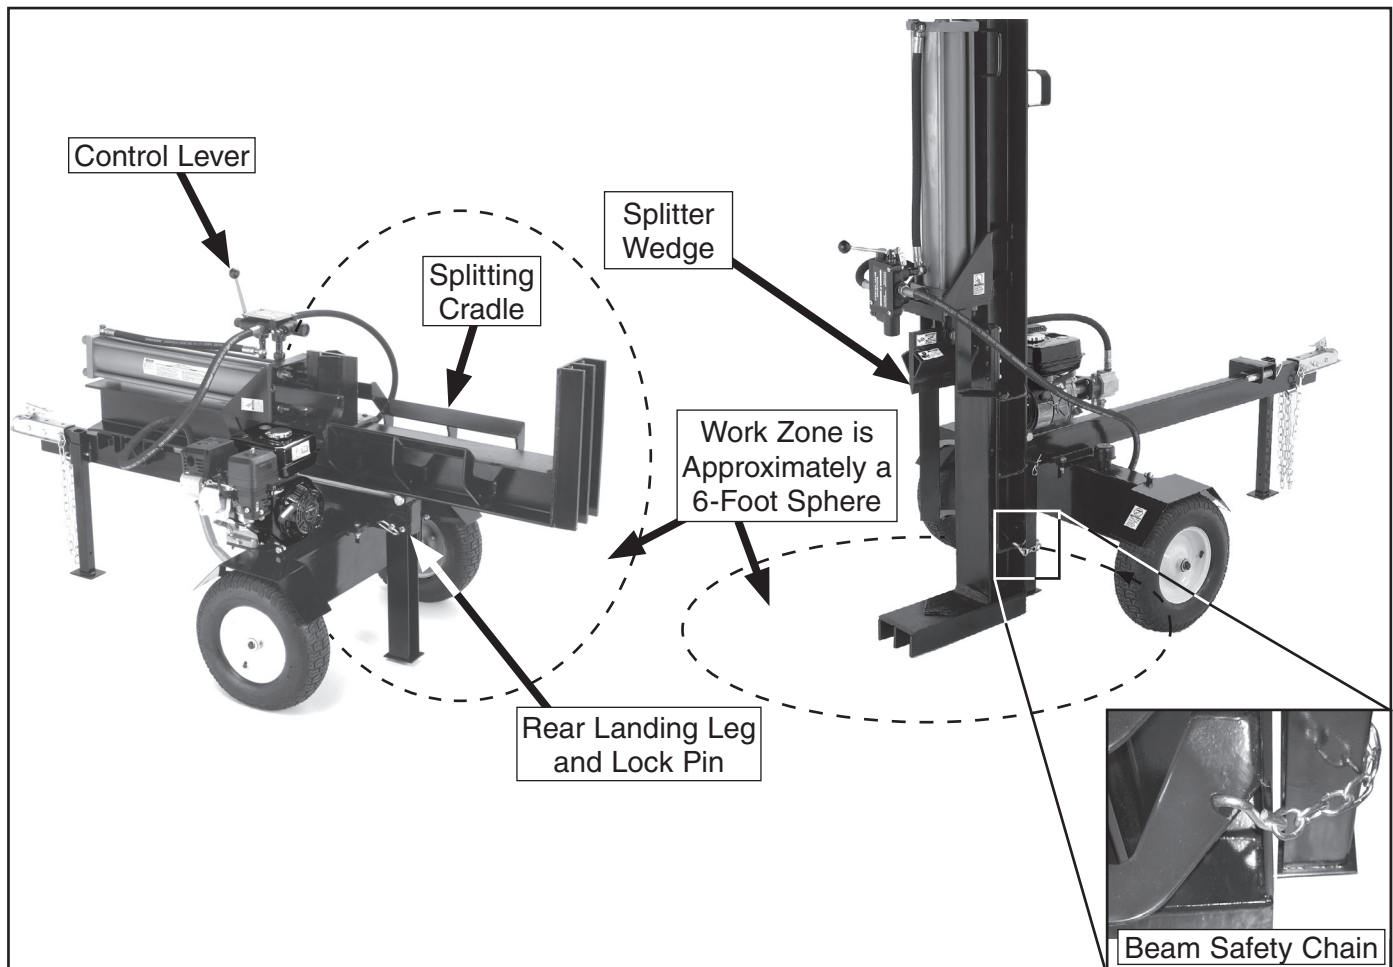

Figure 21. Log splitter positions.
4. Move the ram and beam assembly to the vertical position and lock it in place with safety chain shown in **Figure 21**.